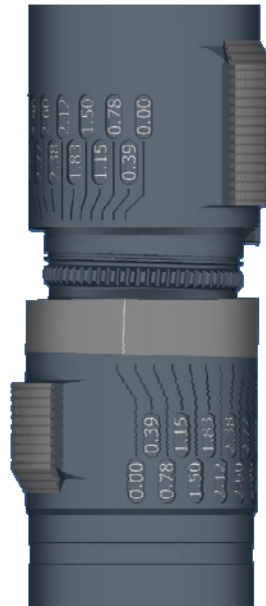

FIG 2B
2. Pull Spacer/Adjustment Ring down towards lower Adjustable Bend Housing. As seen in Figure 2B